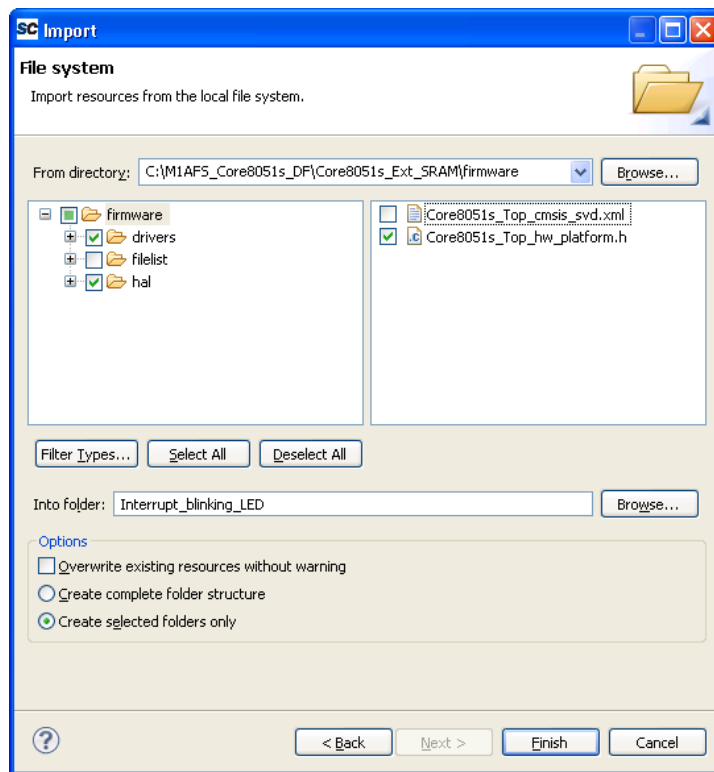

Figure 23 Select the Files to Import
6. Select the drivers, HAL and Core8051s_Top_hw_platform.h file, as shown in Figure 23.